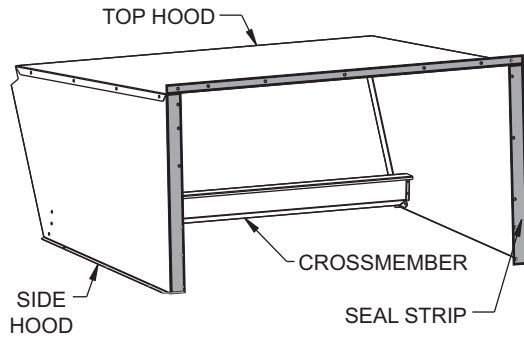

Fig. 32 — Adding Seal Strip to Hood Top and Side Hoods
5. Apply black seal strip (provided) to mounting flanges of hood sides being sure to cover mounting holes. See Fig. 32.
6. Apply black seal strip (provided) to back of hood top mounting flange. Seal strip of hood top mounting flange must press tightly against seal strip of hood side mounting flanges. See Fig. 32.